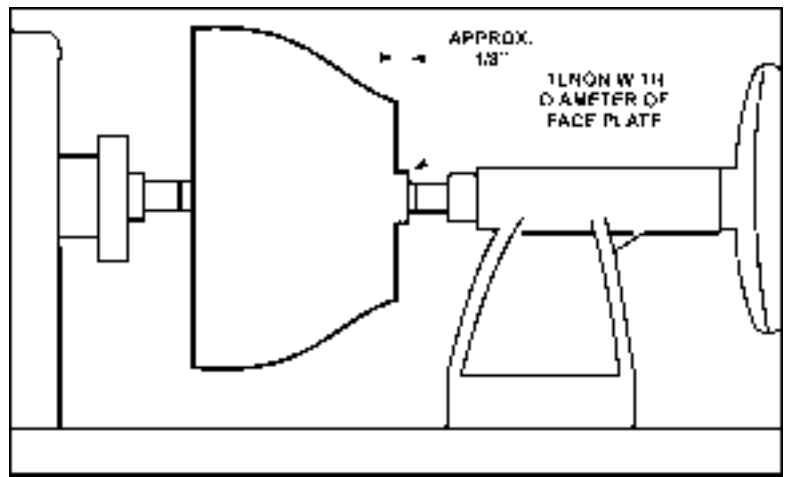

FIGURE 10
9. Turn a short tenon (about 1/8" long) the size of the hole in the faceplate, Figure 10. This will allow centering the workpiece when the faceplate is attached. (NOTE: If you plan to use a chuck, turn a tenon of the appropriate length and diameter to fit your chuck.)